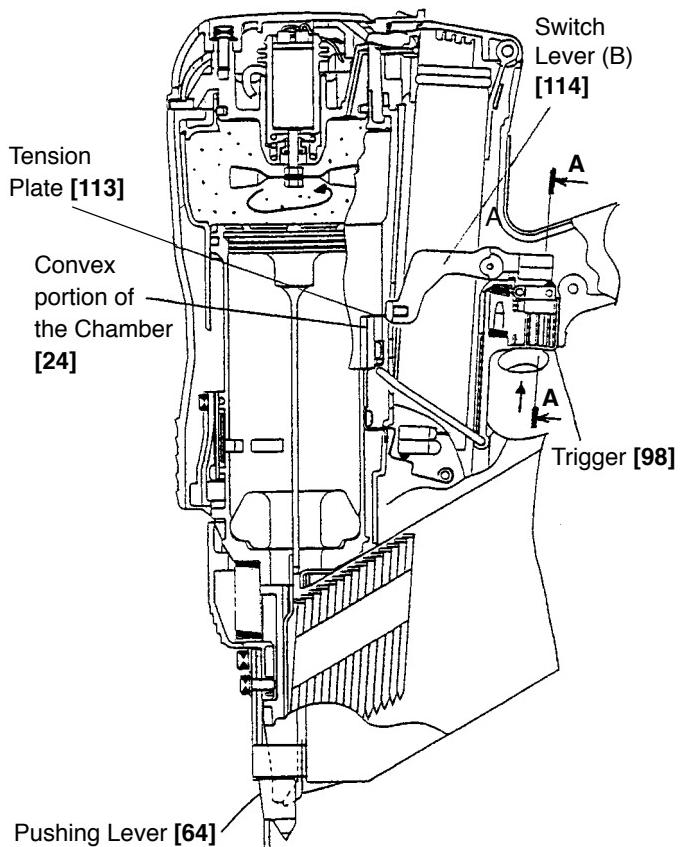
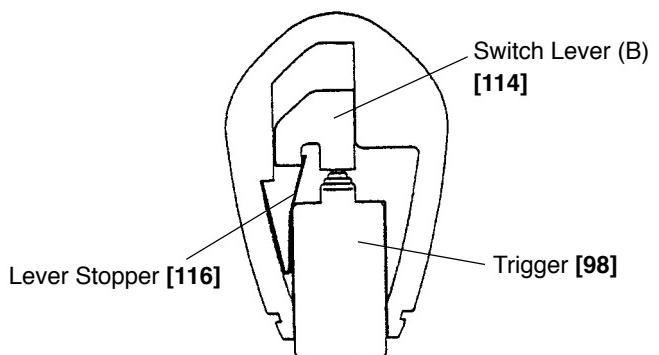

Fig. 9
Fig. 10 (A - A)
The convex portion of the Chamber [24] pushes up the Tension Plate [113] and rotates when the Chamber [24] reaches the uppermost position. Therefore, the end of Switch Lever (B) [114] is moved toward the Trigger [98] (Fig. 9). The Lever Stopper [116] at the side of the Trigger [98] does not prevent Switch Lever (B) [114] from rotating (Fig. 10). The switch is turned on and nails are driven by depressing the Trigger [98].